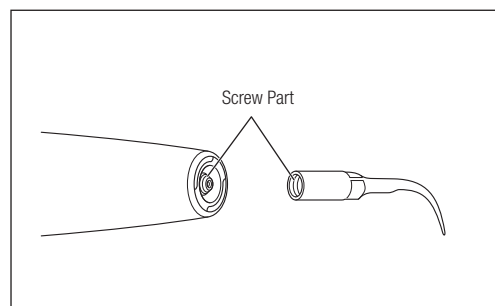

Fig. 14
- 1) Check that the screw parts of the Handpiece and Tip are clean (Fig. 14).